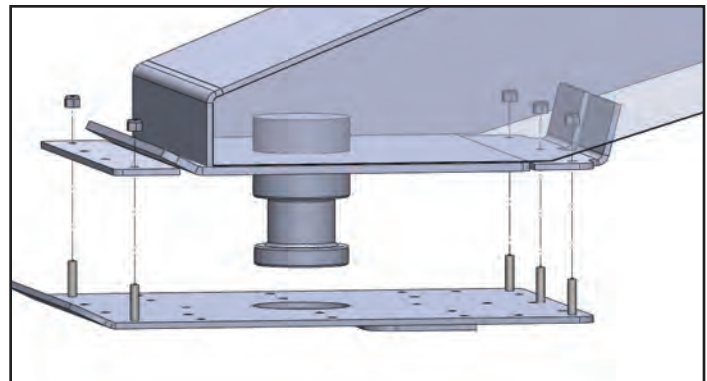

Figure 6
12. Take the Universal Capture Plate away from the extension plates so you can prepare to permanently weld the extensions to the king pin plate (see Figure 6).